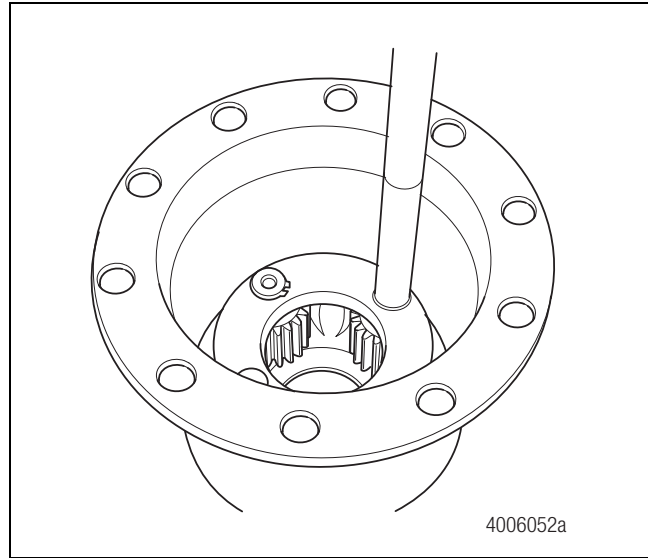

Figure 5.5
2. Use a hammer and drift to drive out the planetary pinion shaft from the planetary carrier. Figure 5.5.